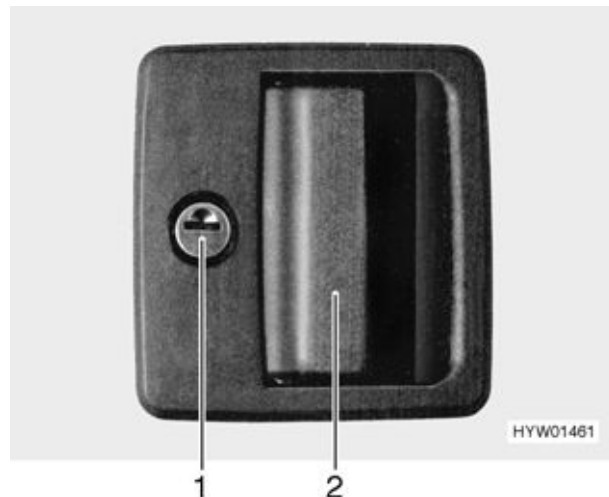

Fig. 24 Door lock of conversion and driver's door, outside
- Insert the key into locking cylinder (Fig. 24,1) and turn in a clockwise direction until the lock is unlatched.
- Open the door by pulling on the handle (Fig. 24,2).
- Insert the key into locking cylinder (Fig. 24,1) and turn in an anticlockwise direction until the lock is engaged.